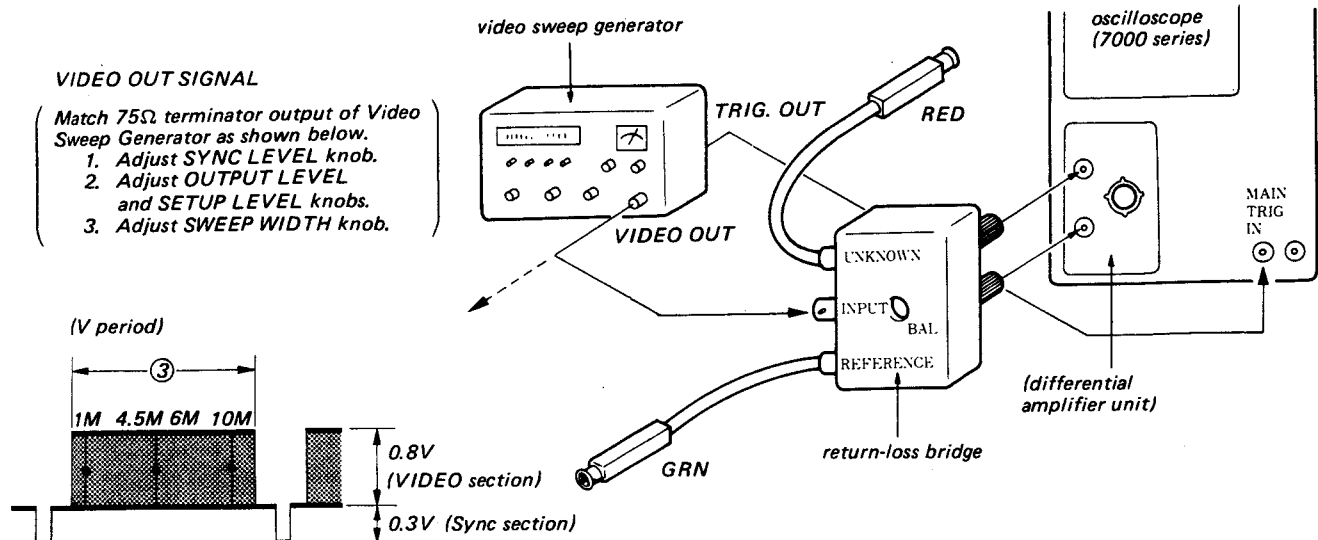

Fig. 5-26.
- Complete the connections as shown in Fig. 5-26.